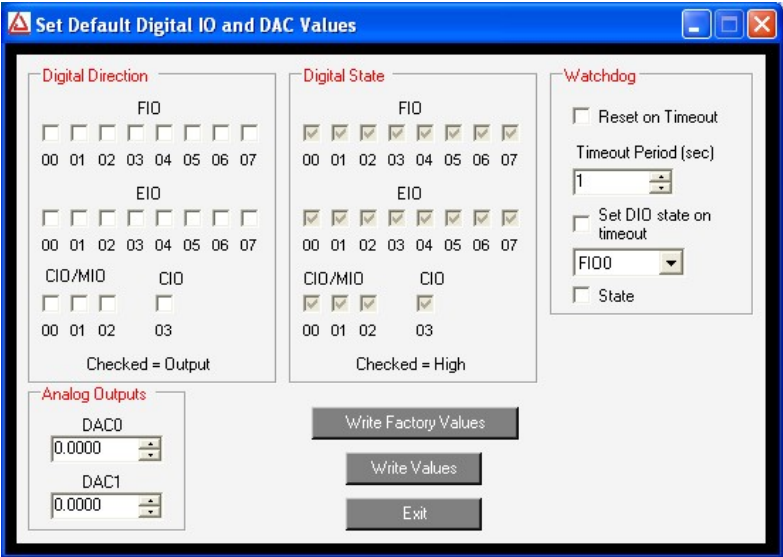

Figure 1-2. LJControlPanel U6 Configure Defaults Window
- Config. IO Defaults: Opens the window shown in Figure 1-2.
Figure 1-2 shows the configuration window for U6 defaults. These are the values that will be loaded by the U6 at power-up or reset. The factory defaults are shown above.